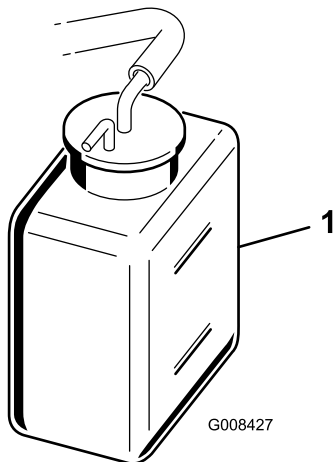

Figure 45
2. Check the coolant level (Figure 45).